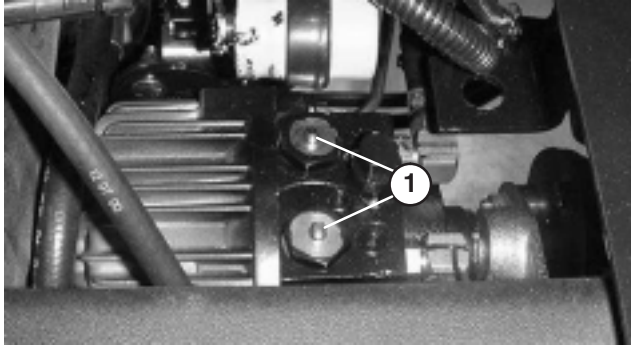
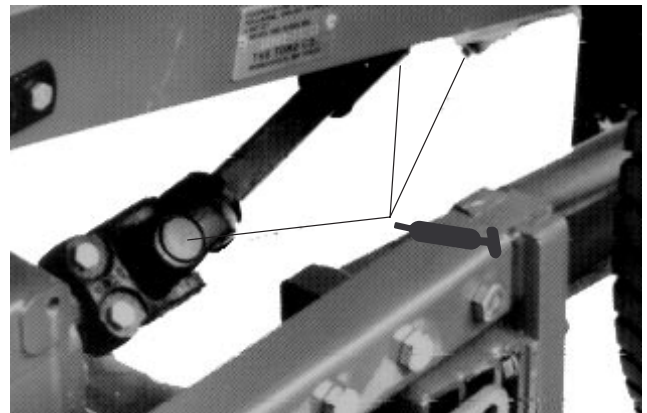

Figure 21
Figure 22
2. Depress and hold the pins located in the center of the two (2) check valve assemblies in the top of the transmission (Fig. 21) while pushing or towing the machine.
Apply a liberal coating of grease to the check valve pins once each year (Fig. 21). Also grease the bearings in the rear axle every 500 hours, or yearly, whichever comes first (not shown). The traction unit has bearings and bushings that must be lubricated, and these lubrication points are: PTO universal shaft (Fig. 22); lift arm pivot bushings (Fig. 23), brake pivot bushings (Fig. 24); rear wheel spindle bushings (Fig. 25); steering plate bushings (Fig. 26); axle pin bushing (Fig. 26); PTO tension pivot (Fig. 27) and rear PTO bearing (Fig. 27). Also apply grease to both brake cables at the drive wheel and brake pedal ends (Fig. 24).